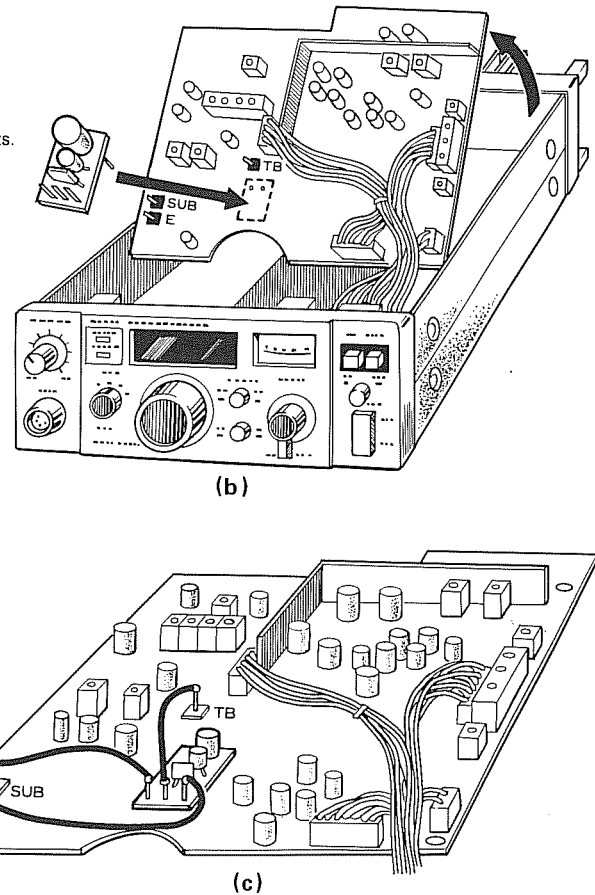

Fig. 4-1
Your TR-7600 has a SUBTONE SWITCH pre-wired for use with tone encoder. To install, refer to Fig. 4-1.
2. Remove the 7 solder points as shown in Fig. 4-1 (a).
3. Install the tone unit on the printed circuit board and solder the ground pin from the foil side. Fig. 4-1 (b)
4. Solder the leads as illustrated in Fig. 4-1 (c).